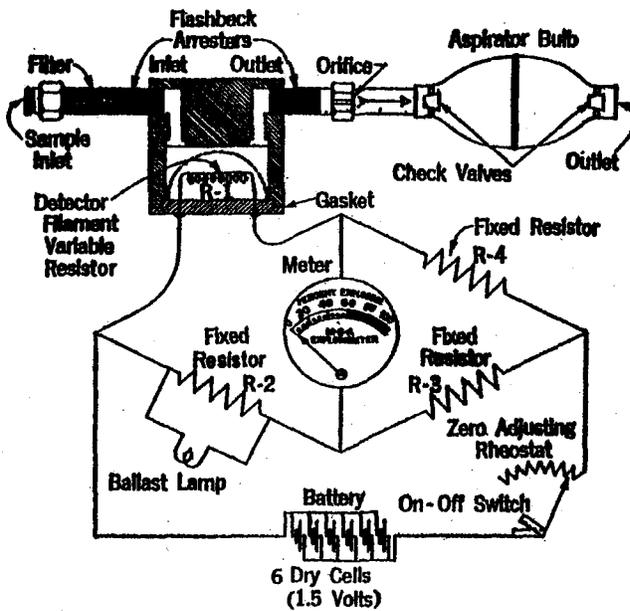

Fig. 2
Caution: Be sure the B Gas Indicator is in working condition before using. (See Fig. 2.)
3.02 Filter Test (See Fig. 2)
3.03 Test for Gas Tightness (See Fig. 2.)
3.11 Flashback Arresters: The flashback arresters are located in the inlet and outlet of the detector filament chamber. The inlet arrester is reached by removing the detector chamber and the baffle plate at the bottom of the detector chamber. The outlet flashback arrester is reached by removing the aspirator bulb coupling (see Fig. 2).